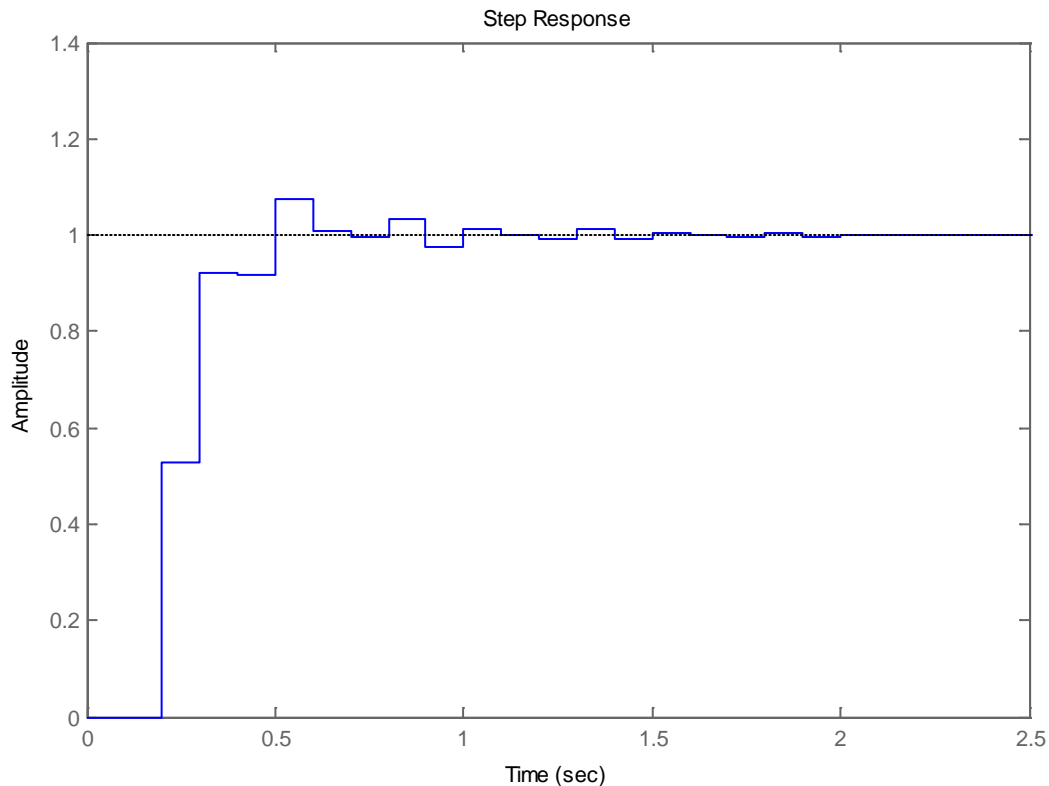

Figure 2. Discrete-time example with w PI controller.
- Move the pole and zero around until the zero is approximately -0.295 and the gain is approximately 0.0563. You should get a figure like that shown in Figure 2.